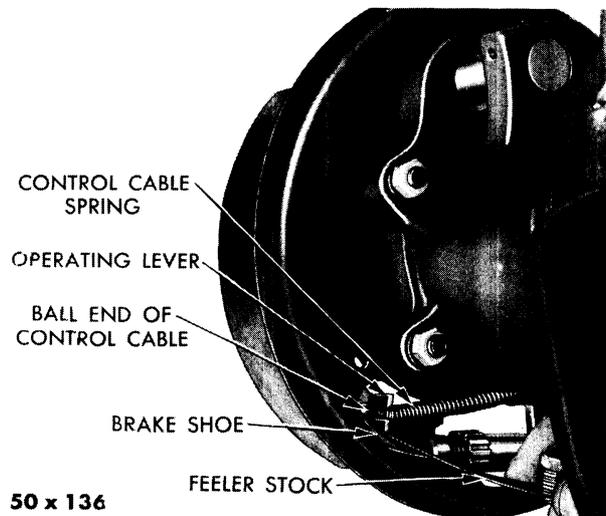

Fig. 28—Clearance Between Lever and Brake Shoe Table
- (1) The cable length adjusting nut should be positioned against the cable housing so that there is at least .005 but not more than .010 inch clearance between the operating lever and the brake shoe table, as shown in Figure 28.
- (2) To lock the adjustment, tighten the cable housing clamp securely and tighten the cable adjusting nut against the housing.